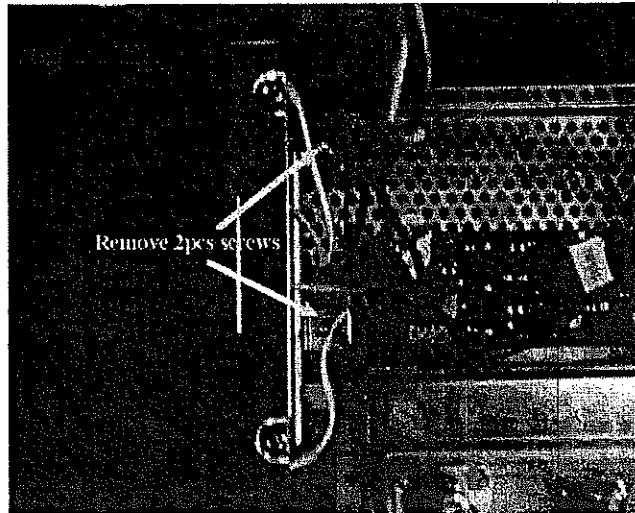
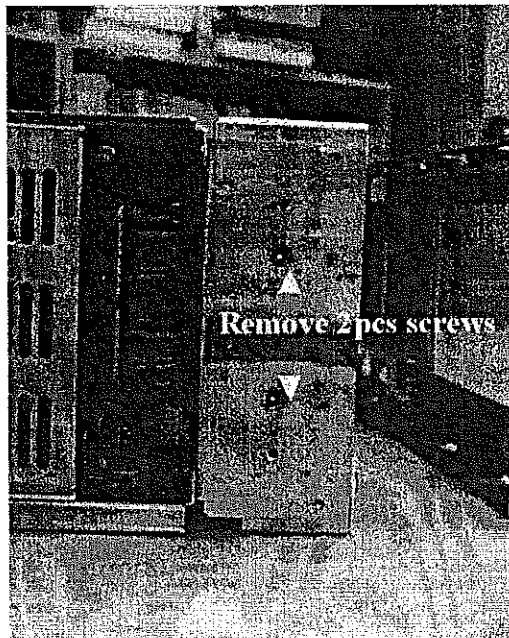

Figure 5-18 Location of Screws
Figure 5-19 Location of Screws
2. After remove front panel, remove 2pcs screws on the front and 2pcs screws on the side, referring Figure 5-18 and Figure 5-19.